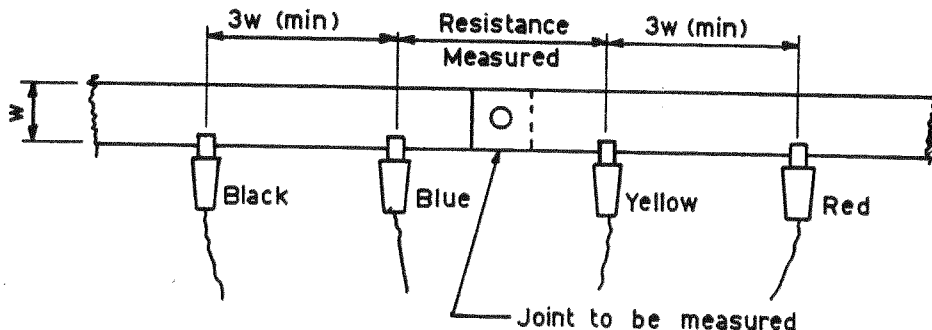

Figure 3-2 Position of Current Clips
5. Connect the red and black (current) clips outside the yellow and blue potential clips. The spacing of these clips is not critical, however they should be at least three times the maximum width of the conductor away from the closest potential clip to minimize the error due to asymmetric current flow. See figure 3-2.